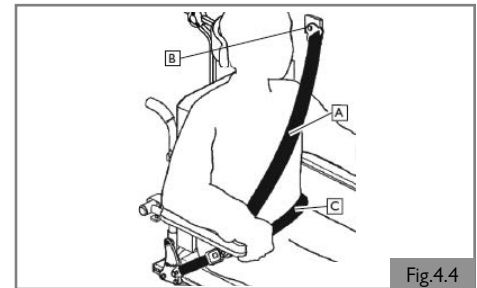

Fig.4.4
14. Both pelvic and upper torso restraint belts must be used to restrain the occupant to reduce the possibility of head and chest impacts with the vehicle components and serious risk of injury to the user and other vehicle occupants (Fig. 4.4).
15. The upper torso restraint belt (A) should be mounted to the vehicle (B) pillar. Failure to do so will increase the risk of serious abdominal injuries to the user (Fig. 4.4).
17. The pelvic restraint belt (C) must be worn low across the front of the pelvis so that the angle of the pelvic belt is within the preferred zone of 30 to 75 degrees to the horizontal (Fig. 4.4).
19. The upper torso restraint belt (A) must fit over the shoulder and across the chest (Fig. 4.4).